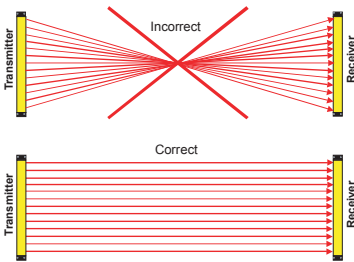

Figure 10: Layout of the transmitter / receiver
It is not allowed to mount GuardShield Safe 4 systems turned by 180° (Figure 10)
1. Mount the transmitter and the receiver with the adjustable mounting brackets. Look for that the longitudinal axis of both are oriented parallel. Take care that receiver and transmitter are oriented in the same direction. This means, the controllers of transmitter and receiver have to be at the same end of the protective field. It is not allowed to mount GuardShield Safe 4 systems turned by 180° (Figure 10).